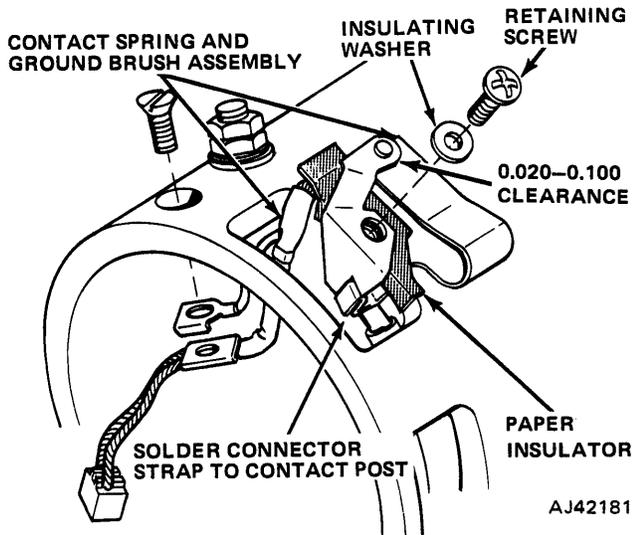

Fig. 3-48 Starter Motor Contact Kit
(1) Unsolder contact post from field coil connecting strap. A heavy-duty soldering iron (at least 300 watts) or a propane torch with a small flame is recommended (fig. 3-48).
(2) Cut off head of contact spring retaining rivet with a small, sharp chisel and discard the contact spring. Use an 8-32 thread tap to cut threads in rivet hole.
(3) Remove contact post retaining screw and insulating washer. Discard contact post and paper insulator.
(4) Position replacement contact spring and ground brush assembly, paper insulator, and contact post on starter frame.
(5) Install insulating washer and retaining screw. Center contact points and tighten retaining screws securely.
(6) Stake threaded end of screw from inside starter frame.
(7) Clean end of the field connecting strap and slotted area of contact post with fine sandpaper to ensure a good solder joint.
(8) Insert end of field connector strap through slot of contact post. Bend and crimp end of connector strap against cleaned surface of the contact post. Solder connection using rosin core solder.
(9) Remove upper ground brush retaining screw and discard brush. Place field ground lead terminal and replacement ground brush terminal block together and install original retaining screw. Tighten screw securely.
(1) Position fiber thrust washer on commutator end of armature shaft and apply a few drops of 10W-30 motor oil to bearing surfaces on both ends of shaft.
(2) Insert armature into starter frame and install starter drive yoke and pivot pin. Drive yoke must engage starter drive assembly.
(3) Place starter drive yoke return spring into recess of drive end housing and install housing to starter frame. Install brush end plate with end plate boss aligned with starter frame slot.
(4) Install through-bolts and tighten to specified torque. Be sure that stop ring retainer is properly seated in drive end housing.
(5) Use a hook to pull back on the brush springs and insert brushes into their holders.
(6) Press down firmly on the starter drive yoke until moveable pole shoe is bottomed. Check clearance between contact points (fig. 3-48). Bend upper contact post, if required, to obtain a desired clearance of 0.060-inch, with an OK range of 0.020-inch to 0.10-inch.
(7) Cover brush openings in frame with waterproof tape and install drive yoke cover and gasket.
(8) Install brush cover band and tighten retaining screw.
(9) Apply a generous amount of Lubriplate or equivalent to drive end of armature shaft and install drive end housing seal using a socket or other suitable tool.
(10) Connect starter to a battery and check operation. Refer to No-Load Test.